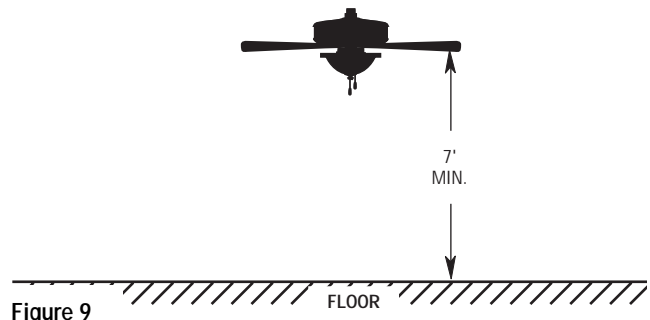

Figure 9
**The fan must be hung with at least 7' of clearance from floor to blades (Figure 9).**